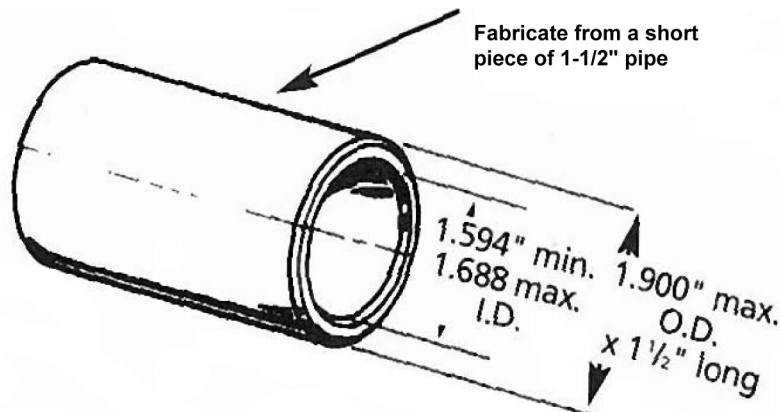

Figure 2 - Seal Installation Tool
8. Apply a light coat of sealing compound to new seal head (See Figure 2) and press it into casing cover recess using proper size tube or installation tool (see Figure 3). **DO NOT** press on carbon face or top of metal cup of the seal head. Install using flange only.